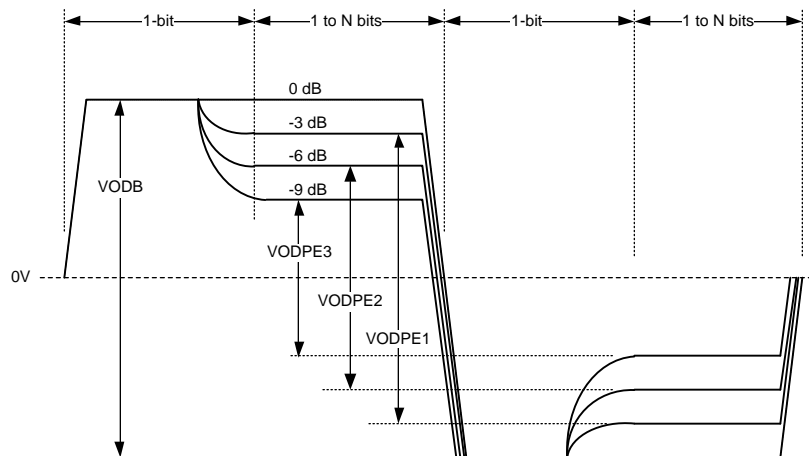
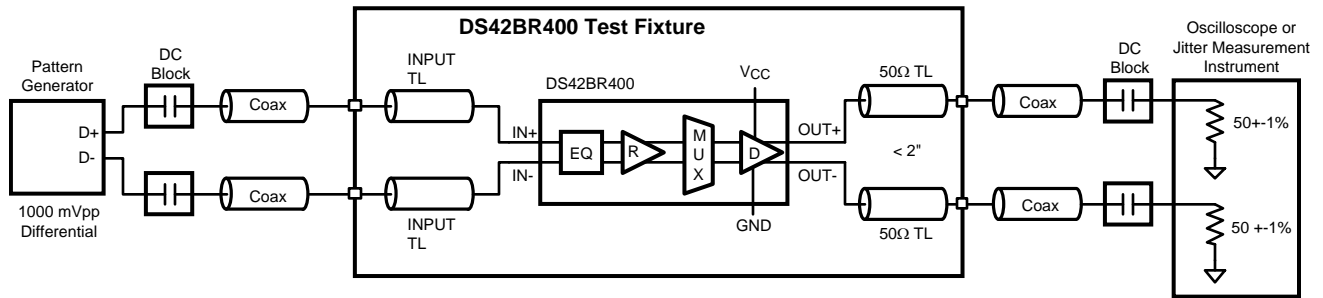

Figure 2. Driver De-Emphasis Differential Waveform (showing all 4 de-emphasis steps)
Figure 7. AC Test Circuit
De-emphasis is the primary signal conditioning function for use in compensating against backplane transmission loss. The DS42BR400 provides four steps of de-emphasis ranging from 0, -3, -6 and -9 dB, user-selectable dependent on the loss profile of the backplane. Figure 2 shows a driver de-emphasis waveform. The de-emphasis duration is nominal 200 ps, corresponding to 85% bit-width at 4.25 Gbps.
The high speed inputs are self-biased to about 1.3V and are designed for AC coupling allowing the DS42BR400 to be directly inserted into the datapath without any limitation. The ideal AC coupling capacitor value is often based on the lowest frequency component embedded within the serial link. A typical AC coupling capacitor value ranges between 100 and 1000nF, some specifications with scrambled data may require a larger coupling capacitor for optimal performance. To reduce unwanted parasitics around and within the AC coupling capacitor, a body size of 0402 is recommended. Figure 7 shows the AC coupling capacitor placement in an AC test circuit.
| V _{ODB} | Output Differential Voltage Swing without De-Emphasis | R _L = 100Ω ±1% PreA_1 = 0; PreA_0 = 0 PreB_1 = 0; PreB_0 = 0 Driver de-emphasis disabled. Running K28.7 pattern at 4 Gbps. See Figure 7 | 1000 | 1200 | 1400 | mV _{P-P} |
| V _{PE} | Output De-Emphasis Voltage Ratio 20*log(V _{ODPE} /V _{ODB}) | R _L = 100Ω ±1% Running K28.7 pattern at 4.25 Gbps PreX_[1:0] = 00 PreX_[1:0] = 01 PreX_[1:0] = 10 PreX_[1:0] = 11 X = A/B channel de-emphasis drivers See Figure 2/ Figure 7 | | 0 -3 -6 -9 | | dB dB dB dB |
| t _R | Differential Low to High Transition Time | Measured with a clock-like pattern at 4.25 Gbps, between 20% and 80% of the differential output voltage. De-emphasis disabled. Transition time is measured with the fixture shown in Figure 7 adjusted to reflect the transition time at the output pins. | | 80 | | ps |
| RJ | Device Random Jitter ⁽⁵⁾ | At 0.25 Gbps At 1.5 Gbps At 4.25 Gbps Alternating-10 pattern. De-emphasis disabled. See Figure 7 | | | 2 2 2 | ps rms ps rms ps rms |
| DJ | Device Deterministic Jitter ⁽⁶⁾ | At 0.25 Mbps, PRBS7 pattern At 1.5 Gbps, K28.5 pattern At 4.25 Gbps, K28.5 pattern At 4.25 Gbps, PRBS7 pattern De-emphasis disabled. See Figure 7 | | | 25 25 25 25 | ps pp ps pp ps pp ps pp |
(4) t_{SKO} is the magnitude difference in propagation delays between all data paths on one device. This is channel-to-channel skew. t_{SKPP} is the worst case difference in propagation delay across multiple devices on all channels and operating under identical conditions. For example, for two devices operating under the same conditions, t_{SKPP} is the magnitude difference between the shortest propagation delay measurement on one device to the longest propagation delay measurement on another device.
(5) Device output random jitter is a measurement of random jitter contributed by the device. It is derived by the equation $\text{SQRT}[(\text{RJ}_{\text{OUT}})^2 - (\text{RJ}_{\text{IN}})^2]$, where RJ_{OUT} is the total random jitter measured at the output of the device in ps(rms), RJ_{IN} is the random jitter of the pattern generator driving the device. Below 400 Mbps, system jitter and device jitter could not be separated. The 250 Mbps specification includes system random jitter. Please see Figure 7 for the AC test circuit.
(6) Device output deterministic jitter is a measurement of the deterministic jitter contribution from the device. It is derived by the equation (DJ_{OUT} - DJ_{IN}), where DJ_{OUT} is the total peak-to-peak deterministic jitter measured at the output of the device in ps(p-p). DJ_{IN} is the peak-to-peak deterministic jitter at the input of the test board. Please see Figure 7 for the AC test circuit.
(7) This parameter is specified by design and/or characterization and is not tested in production.